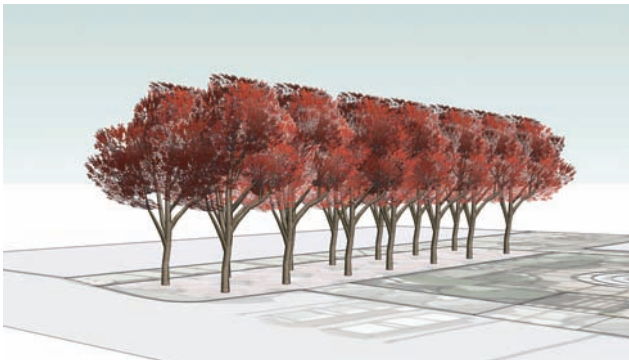
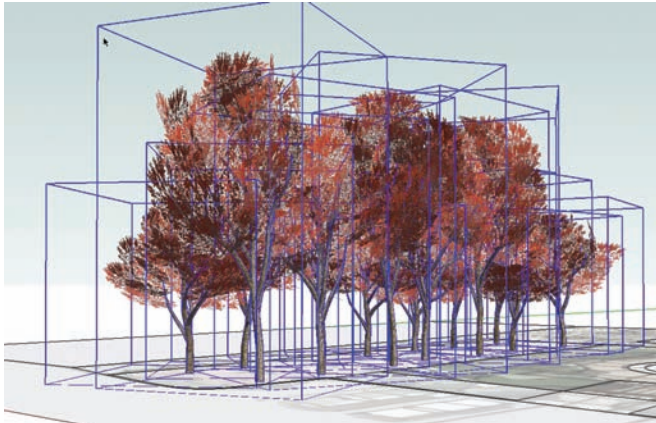
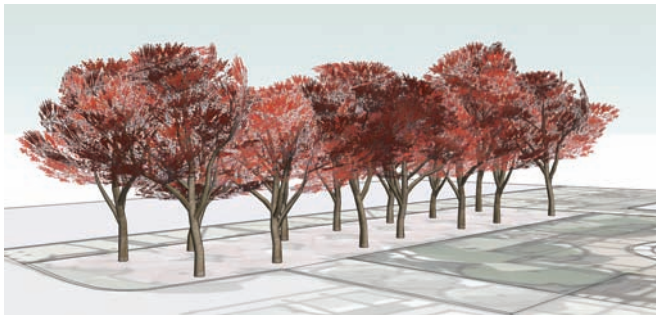

Fig. 10-4: Import and arrange 3D trees onto the plan image.
Fig. 10-5: Apply Randoor to the 3D trees.
Fig. 10-6: Adjust the scale of some trees.
Add and adjust three varieties of 3D trees using the Accuracy method (Fig. 10-4 through Fig. 10-12).
3. Imported 3D vegetation of a uniform type looks artificial and repetitive; it lacks natural and organic qualities (Fig. 10-4). This unnatural appearance can be easily fixed with a custom Ruby Script called Randor. Randor randomizes the rotation axes and the height of selected components to create a more natural and organic habit (Fig. 10-5, Fig. 10-6).